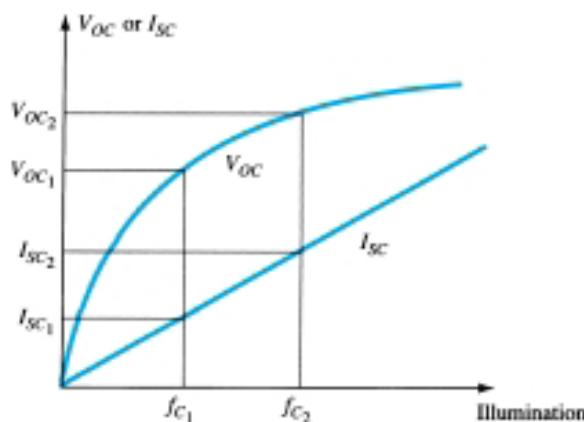

Figure-27 V_{oc} and I_{sc} versus illumination for a solar cell
- This is a logarithmic function of the illumination, as shown in Figure-27. V_{oc} is the terminal voltage of a battery under no-load (open-circuit) conditions.
- Note, however, in the same figure that the short-circuit current is a linear function of the illumination. That is, it will double for the same increase in illumination (fC1 and 2fC1 in Figure-27) while the change in V_{oc} is less for this region.